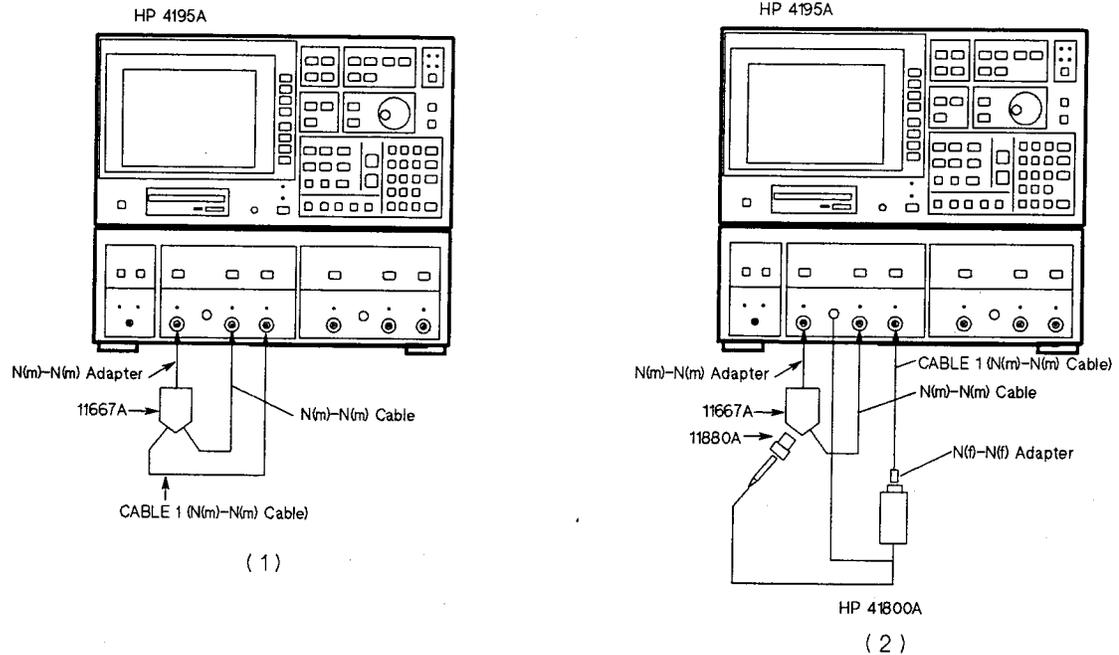

Figure 5-1. LF Gain/Flatness Adjustment Setup
1. Connect the power splitter to the HP 4195A as shown in Figure 5-1 (1).
5. Disconnect **CABLE 1** (see Figure 5-1 (1)) from the power splitter, and connect the HP 41800A between the power splitter and **CABLE 1** as shown in Figure 5-1 (2).